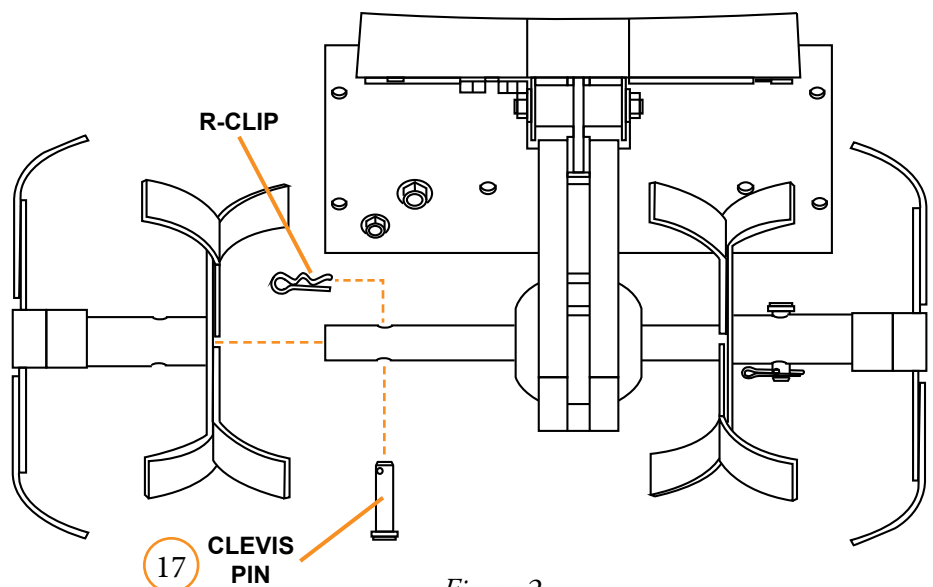

Figure 2
2. Slide the assembled tines onto the tiller's axle. Align the connection holes and secure the tines to the tiller axle with a clevis pin and a R-clip (see Figure 2).